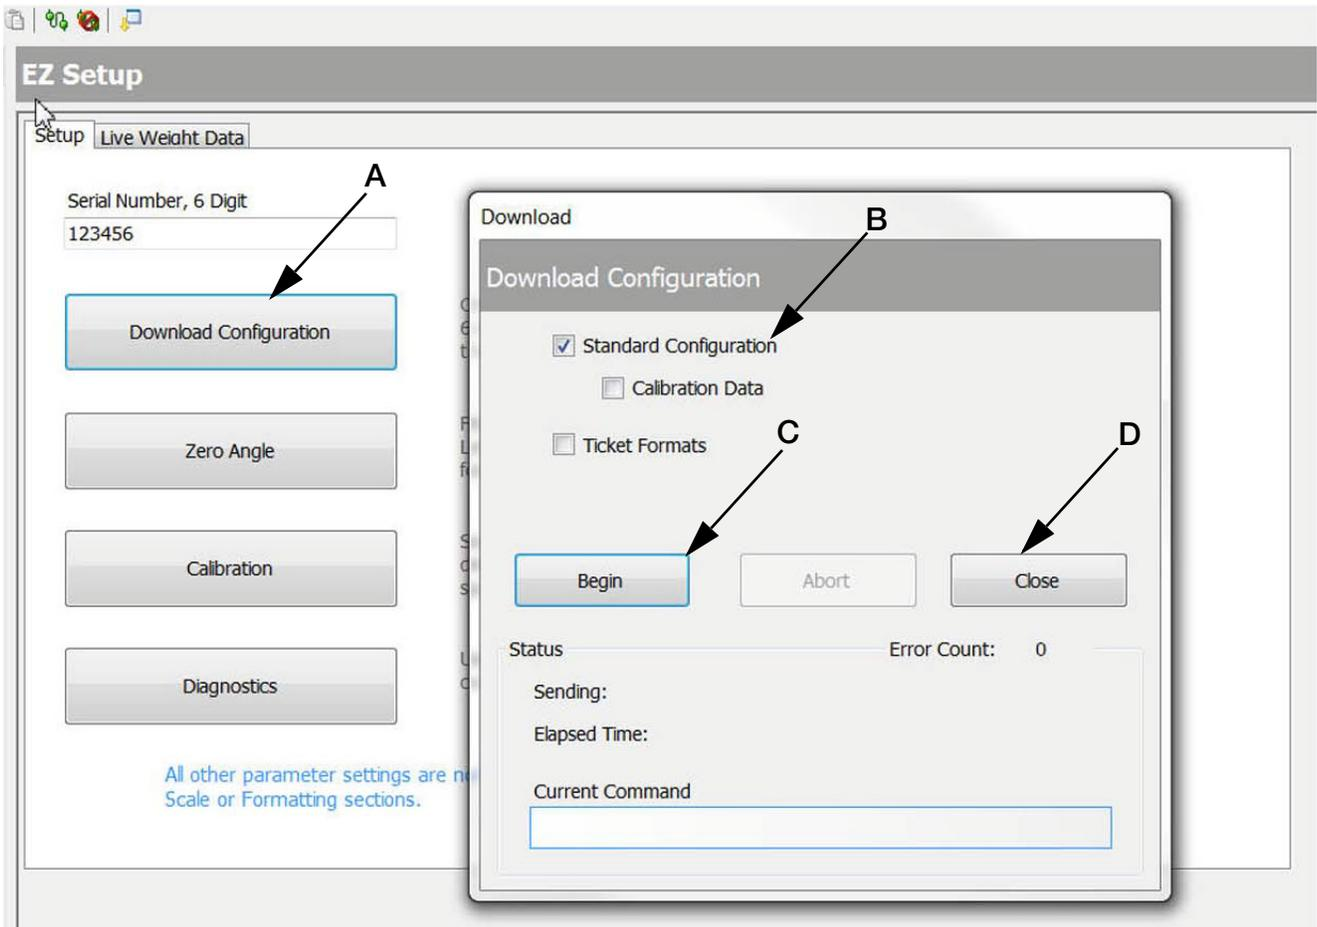

Figure 4-19. Download Configuration
2. Select Download Configuration (Figure 4-19 A).
3. Using Standard Configuration (Figure 4-19 B), select Begin (Figure 4-19 C).
4. When download is complete, select Close (Figure 4-19 D).